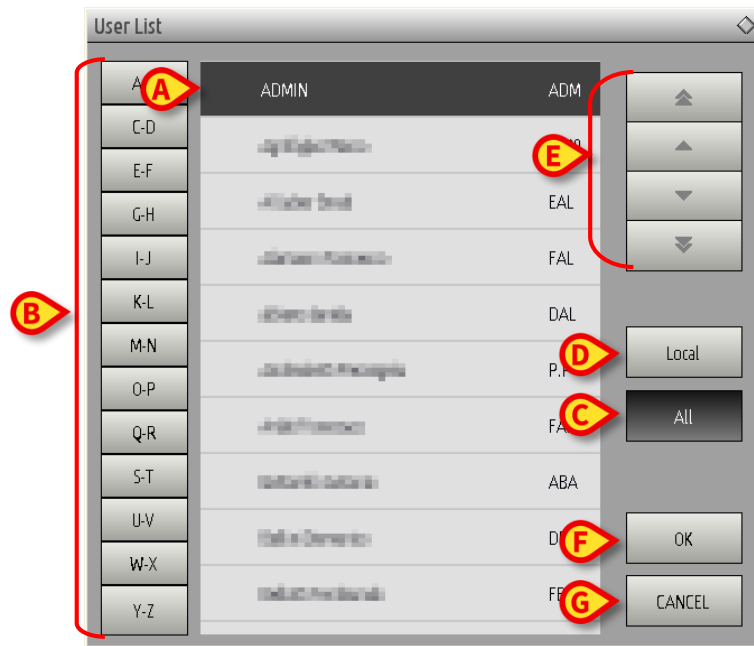

Fig 14
The following window is displayed (Fig 14).
The window shown in Fig 14 can be used as an index book enabling to search and select a user in the list of all possible users.
The central part of the window shows the names of possible users, in alphabetical order (Fig 14 **A**).
The letters on the left side of the window (Fig 14 **B**) work like an index and make it possible to see only the users whose names begin with a specific letter.
Use the **All** button (Fig 14 **C**) to see the list of all possible users.
Use the **Local** button (Fig 14 **D**) to see the list of users that logged in to the workstation on which you are currently working.
Use the arrows on the right side of the window (Fig 14 **E**) to scroll up and down the list of users.
- click the **Ok** button (Fig 14 **F**).
Use the **Cancel** button (Fig 14 G) to cancel the operation and close the “User list” window without selecting any user.